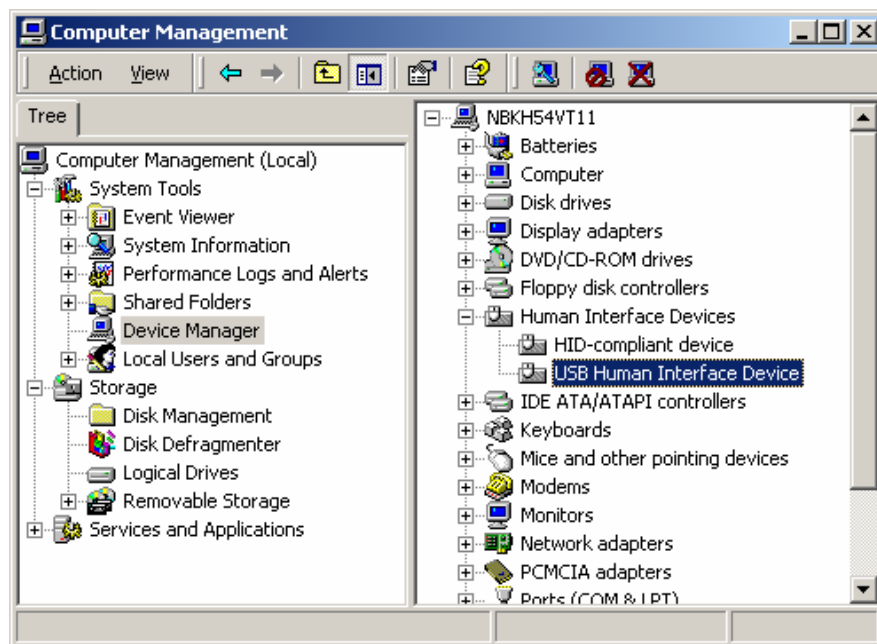

FIGURE 17. SCREEN SHOT OF THE COMPUTER MANAGEMENT FOLDER
2. Select the Device Manager and the Human Interface Devices folder will lead to the window in Figure 17.